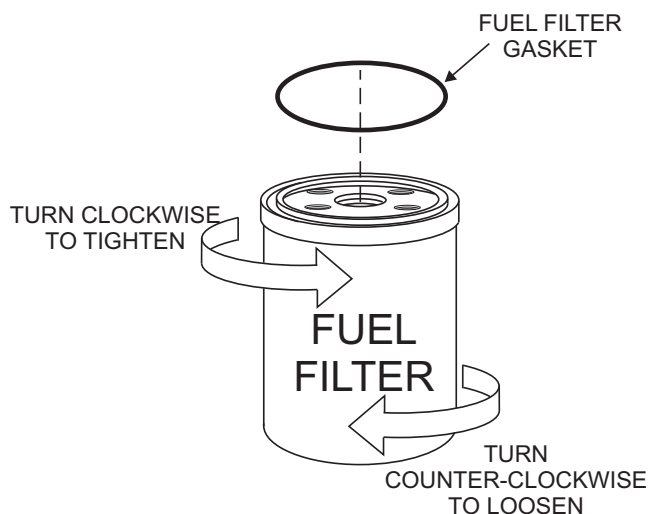

Figure 20. Fuel Filter
1. Replace fuel filter (Figure 20) every 500 hours.